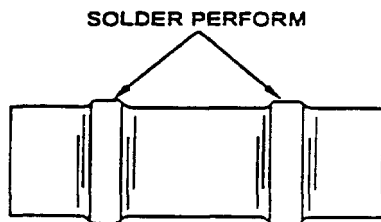

Figure 21 . Series D-153 Solder Sleeve
49. **SERIES D-153 SOLDER SLEEVES.** The Series D-153 solder sleeves are used for termination of gross shielded harnesses (Figure 21).